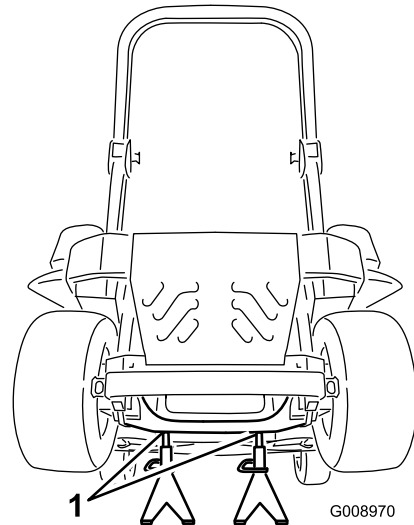

Figure 83
3. Raise the machine and support it with jack stands (Figure 83).
9. Remove the jack stands and lower the machine (Figure 83).